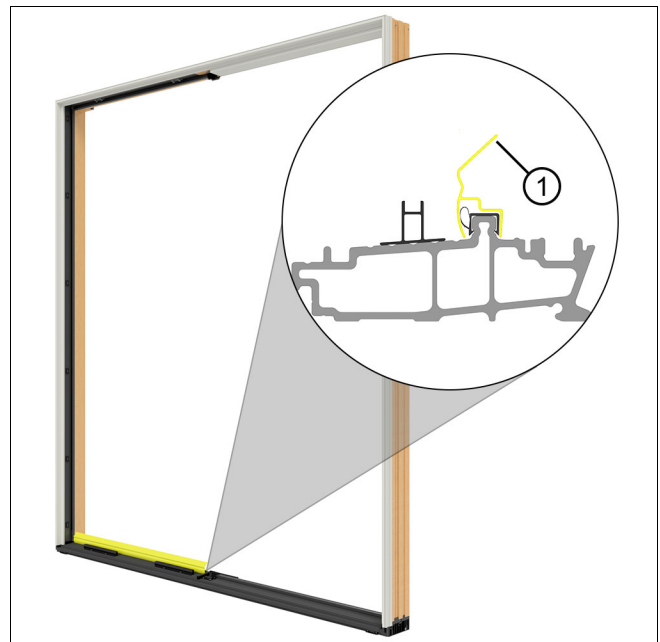

Figure 17
2. Doors with Performance Sills: Install the weatherstrip jig. Install the leading edge of the jig under the weather strip bulb, then rotate the jig so the back edge snaps onto the exterior leg of the weather strip. See Figure 17.